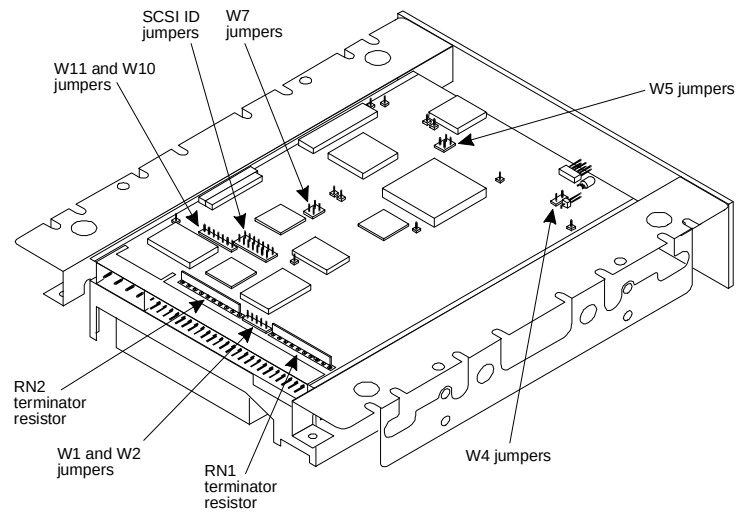
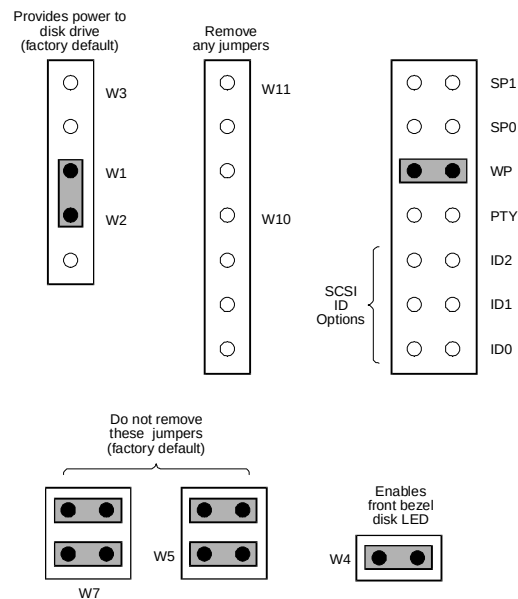
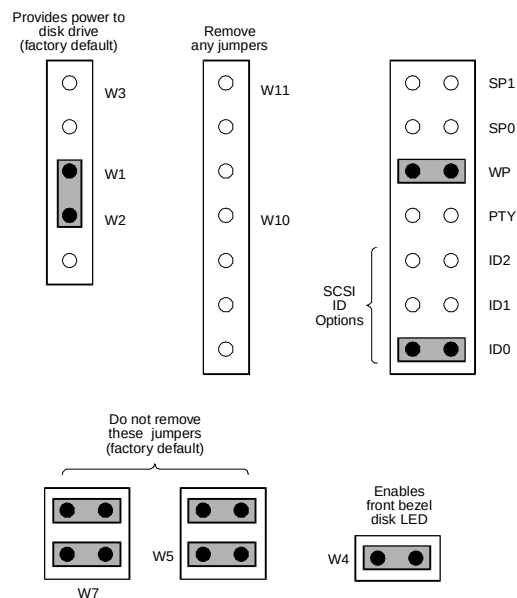

Figure B-15. Jumper Locations on the 1.7-Gbyte SCSI Hard Disk Drive (Comcode 407071950)
Figure B-16. Jumper Settings for the First 1.7-Gbyte (Comcode 407071950) SCSI Hard Disk Drive Installed; Drive 0
Figure B-17. Jumper Settings for the Second 1.7-Gbyte (Comcode 407071950) SCSI Hard Disk Drive Installed; Drive 0
12. Place the defective hard disk drive on an ESD-protected work bench. Loosen and remove two Phillips head screws on each side of the drive to release it from the mounting brackets. These screws are shown as Item(s) 8 in Figure B-16 (Position 3 drive) or B-17 (Position 4 drive).
- Figure B-15 shows the location of the jumpers on the 1.7 Gbyte SCSI hard disk drive (Comcode 407071950). Figure B-16 and Figure B-17 show the jumper settings.